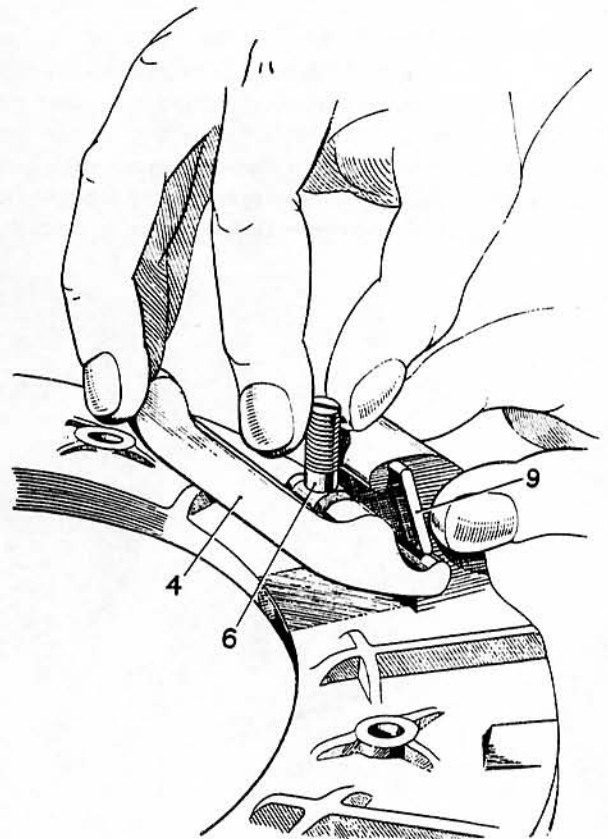

FIG. 10
6. Remove each release lever (4) by holding lever and eye-bolt (6) so that the inner end of the lever and the threaded end of the eye-bolt are as near together as possible, keeping the eye-bolt pin (5, Fig. 1) in position on the lever. Lift the strut (9) over the ridge on the lever and remove the eye-bolt from the pressure plate (Fig. 10).